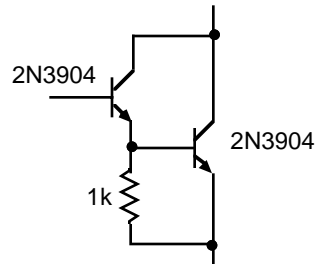

Fig 6.3
a) Design and build an emitter follower using the Darlington pair connection of Fig 6.3.